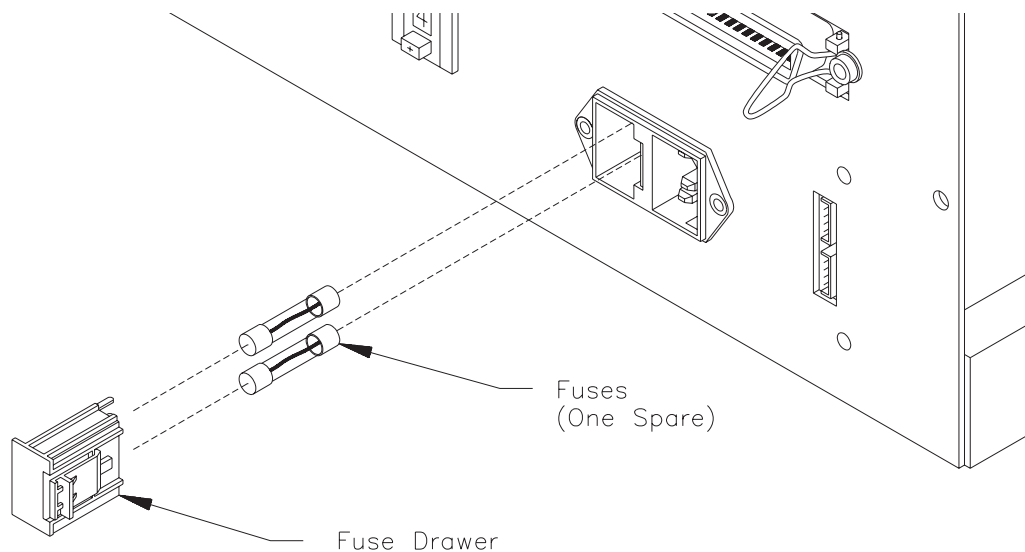

Figure 18-1 Fuse drawer (rear view of the CHS)
2. Locate the fuse drawer at the back of the CHS. Figure 18-1 shows the fuse drawer removed from the CHS.